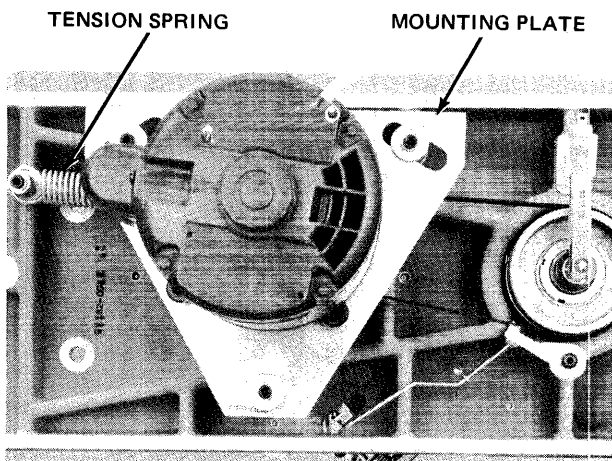

Figure 5-15. Spindle Motor Mounting Plate
- d. Remove four bolts fastening drive motor to drive motor mounting plate (see Figure 5-15).